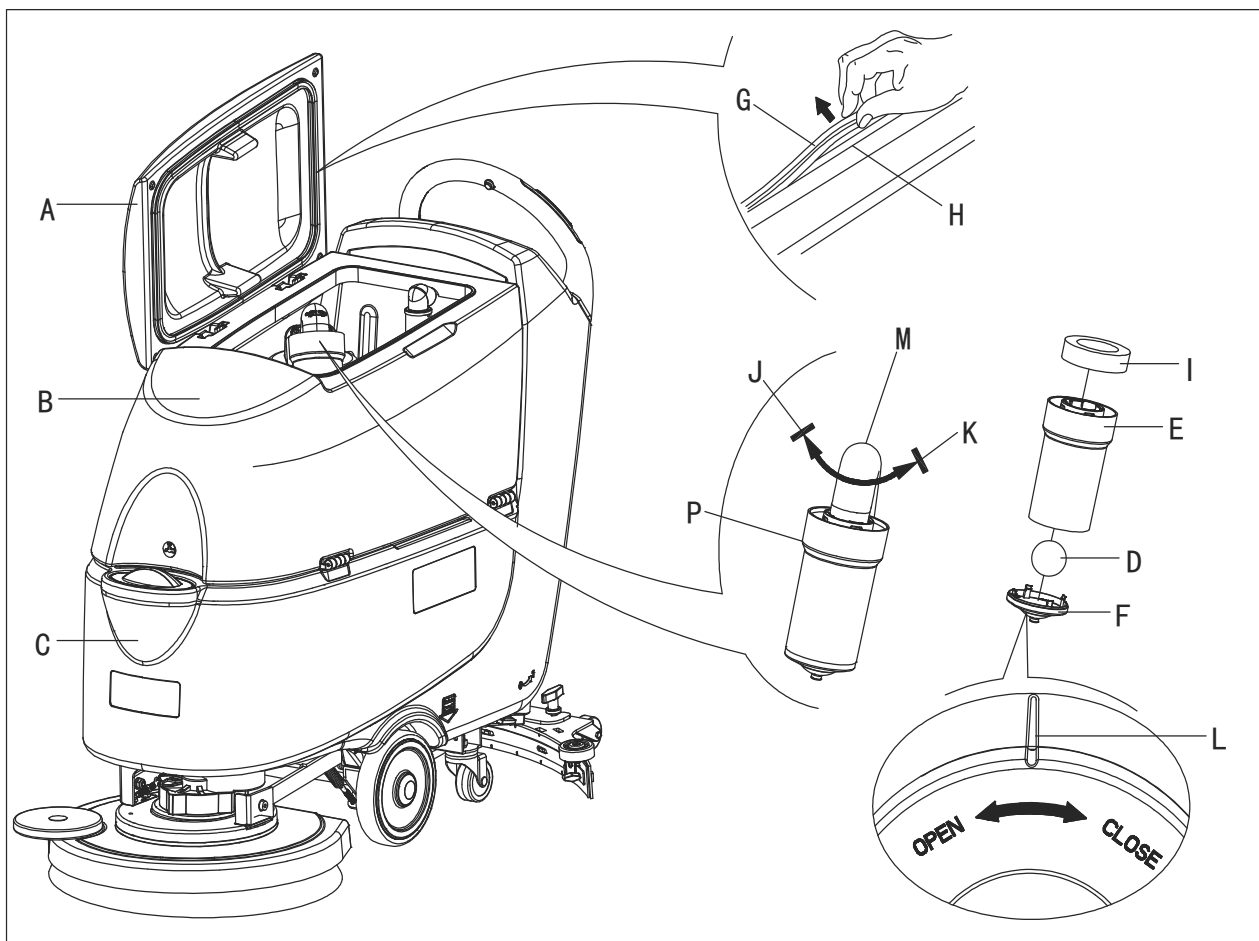

Figure 23
2. Ensure that the machine is off and the ignition key (54) has been removed.
3. Turn the recovery tank lid (A, Figure23) 90 degree position where it can be took off from the tank, and then take down the float ball filter (P) from the tank.
4. Clean the recovery tank lid (A), recovery tank (B), clean water tank(C) and the float ball filter support frame (E). Empty the recovery tank with the drain hose (22).
5. .If necessary, follow the symbols “OPEN” and “CLOSE” as shown in (Figure23) to open the bottom cover (F) of float ball filter and then clean the float ball (D), filter support frame (E) and filter sponge (I). After cleaning, fix the float ball (D) into the filter support frame (E) and then align the mark groove (L) of the bottom cap (F) of the float ball filter with the mark groove (L) of the float filter support frame (E).Screw the bottom cap of the float ball filter tight, and fix the filter sponge (I) onto the float filter support frame (E). Finally, connect it to the sewage suction hose (M).
7. Check whether the contact surface of sealing strip (G) is integrity and sealing is sufficient. If necessary, take the sealing strip of the tank out of the groove (H) and replace it. Assembly the new sealing strip as shown in (Figure23), the joint should be back in the middle area.
8. Close the recovery tank lid (A).